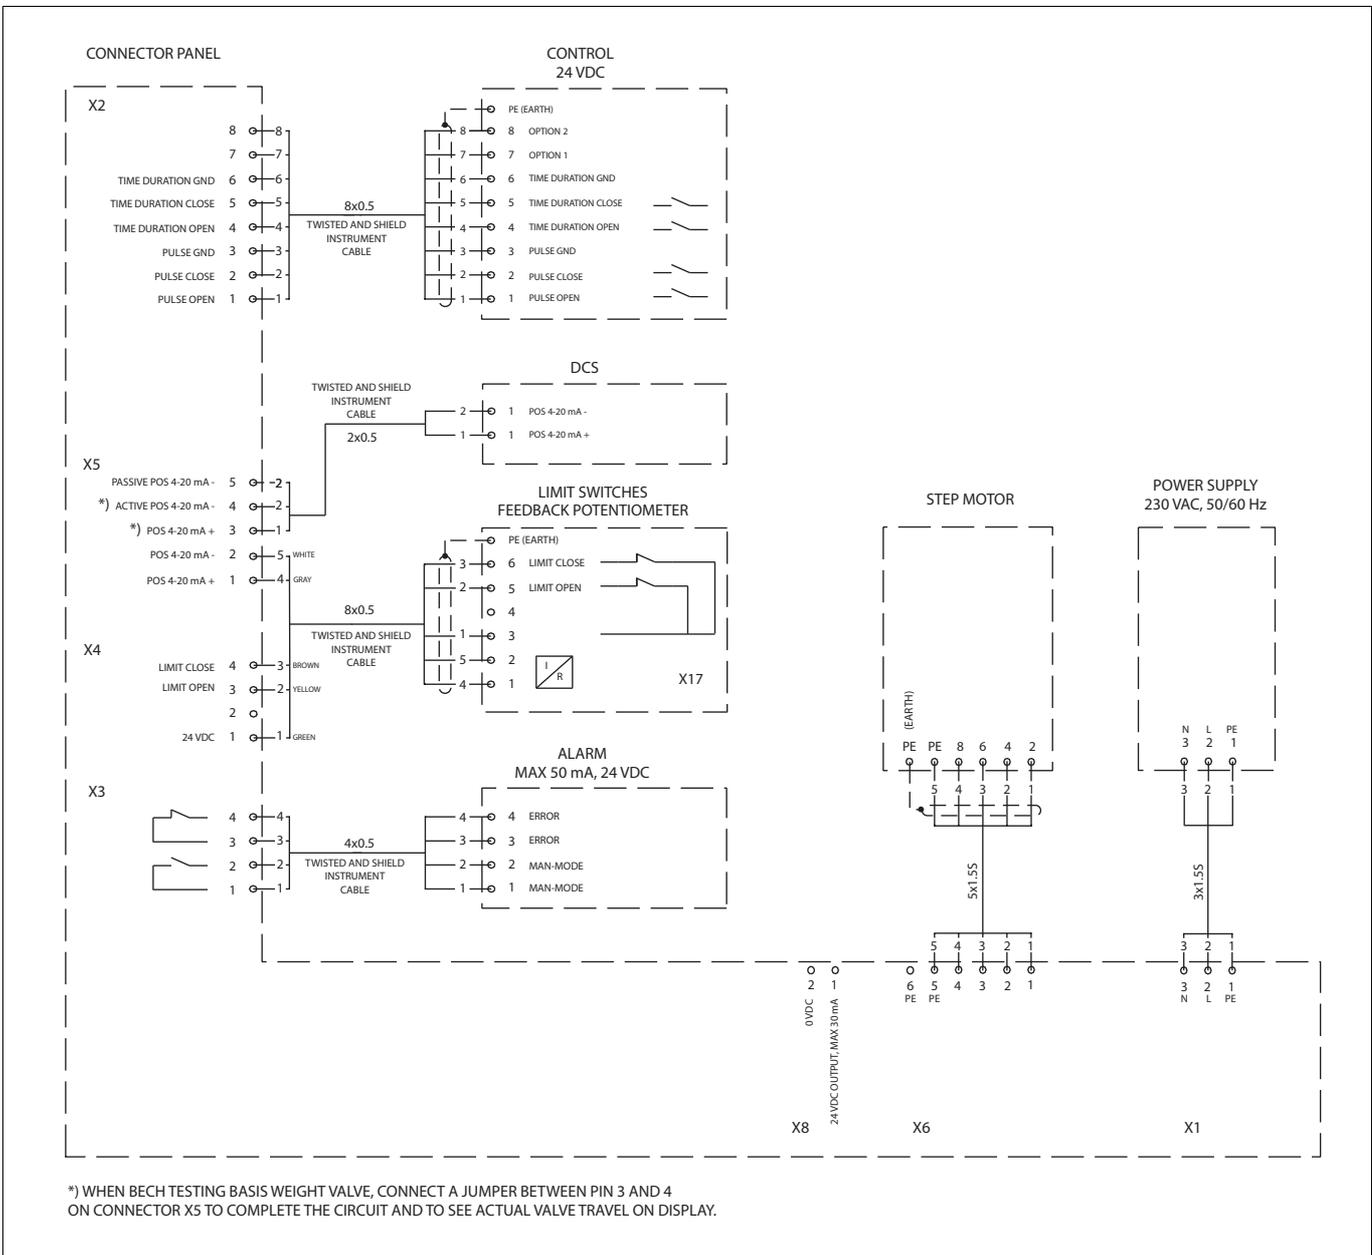
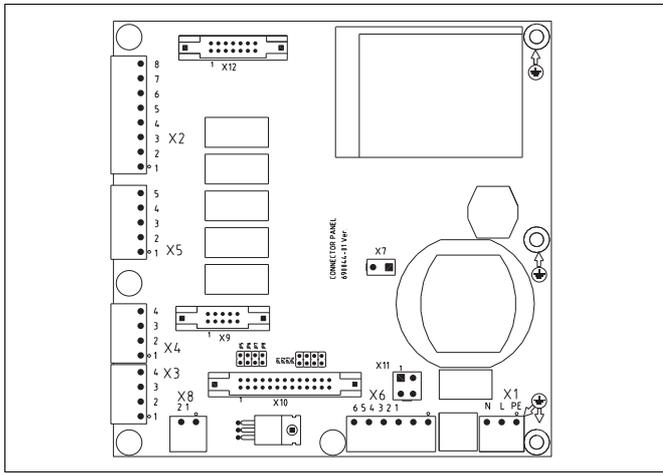

Fig. 4 Connection diagram
Fig. 5 Connector card
The internal connections of the control unit between the step motor controller, display card and connector card are made using cables with connectors. All cables must be connected to ensure the proper operation of the controller. Connector card, Fig. 4, connectors X1...X12, and step motor controller, Fig. 5, connectors X1...X6, are connected as follows:
- Check that LED 11 is lit (HW Enable), see Fig. 5.
- Connect the serial link cable to controller (connector X4) Fig. 5.